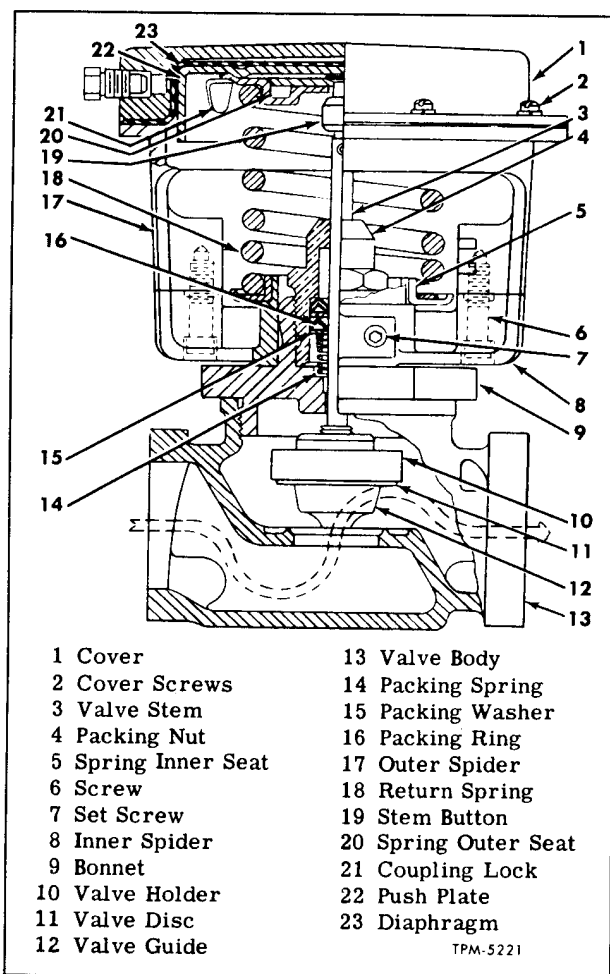

Figure 39—Water Modulation Valve (Standard Controls)
Water modulation valve (fig. 39) is an air operated water control valve installed in heater water supply line (fig. 30). Valve is accessible after opening door of right forward compartment.
NOTE: The packing nut (4, fig. 39) is self-adjusting; excessive tightening will not stop packing from leaking. The packing nut must however, be threaded completely into bonnet.
NOTE: Key numbers in text refer to figure 39.
2. Assemble valve holder (10), valve disc (11) and valve guide (12) on end of valve stem (3) and tighten firmly.
3. Apply light silicone lubricant to packing rings and to interior of packing nut, then insert stem through bonnet (9) and install packing spring (14), packing washer (15), one packing ring (16), another packing washer, remaining two packing rings (16), and packing nut (4) onto valve stem in sequence mentioned. NOTE: Turn packing rings on valve stem threads with the spot of paint on each ring facing outward from valve body. Rings must be positioned as shown in figure 39. Thread packing nut into bonnet (9) and then tighten nut firmly.
4. Thread stem button (19) on end of valve stem to a distance whereby overall length of stem with stem button and valve guide equals measured length recorded prior to disassembly.
5. Attach outer spider (17) to inner spider (8) with two screws (6); then position spiders over bonnet (9) and secure with two set screws (7).
6. Position valve return spring inner seat (5),